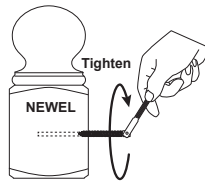
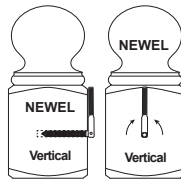

Fig. 3
Fig. 4
9. Install Rail Bolt in post with 2-7/8" of bolt protruding (Fig. 3). Verify that the bolt ends in the vertical position (Fig. 4).